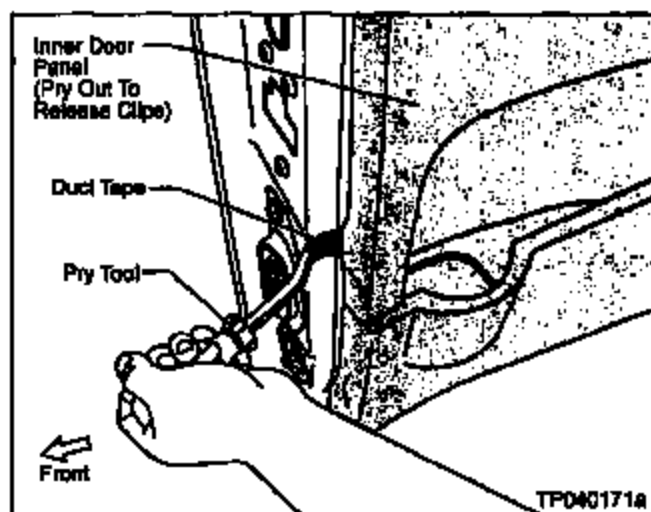

Figure J14
- a. Use a suitable Pry Tool to carefully release the Securing Clips along the front edge of the Inner Door Panel (see Figure J14).
**CAUTION:** Be careful not to damage the paint/plastic. Use duct tape on the end of the Pry Tool (see Figures J14).